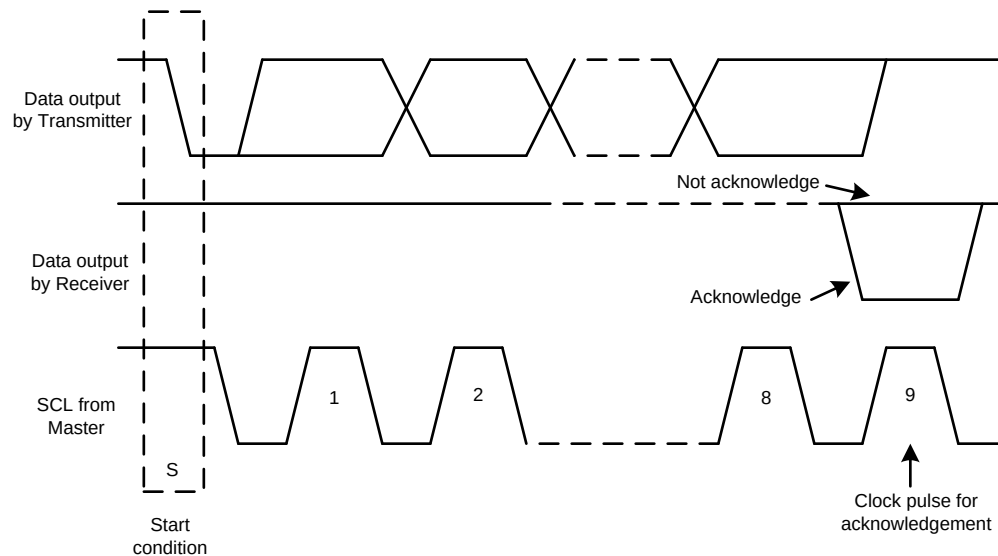
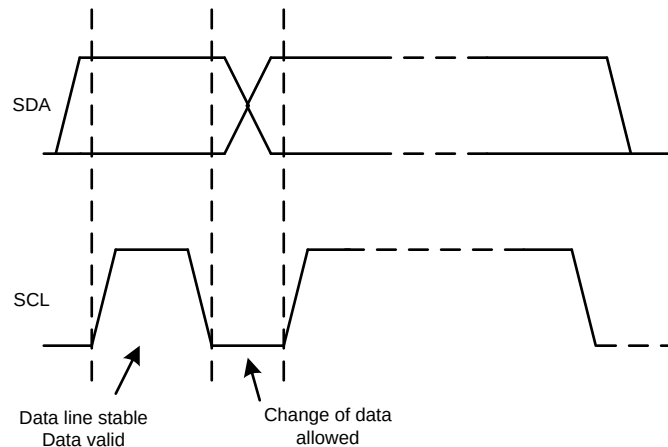

Figure 56. Acknowledge and Not Acknowledge on the I²C™ Bus
Figure 58. Bit Transfer on the I²C™ Bus
Other than specific timing signals, the I^2C^{TM} interface works with serial bytes. At the end of each byte, a ninth clock cycle generates and detects an acknowledge signal. Acknowledge is when the SDA line is pulled low during the high period of the ninth clock cycle. A not-acknowledge is when the SDA line is left high during the high period of the ninth clock cycle as shown in Figure 56.
2. The master then generates the SCL pulses, and transmits the 7-bit address and the read/write direction bit (R/W) on the SDA line. During all transmissions, the master ensures that data is valid. A valid data condition requires the SDA line to be stable during the entire high period of the clock pulse, as shown in Figure 58. All devices recognize the address sent by the master and compare it to their internal fixed addresses. Only the slave device with a matching address generates an acknowledge by pulling the SDA line low during the entire high period of the 9th SCL cycle, as shown in Figure 56 by pulling the SDA line low during the entire high period of the 9th SCL cycle. Upon detecting this acknowledge, the master knows the communication link with a slave has been established.